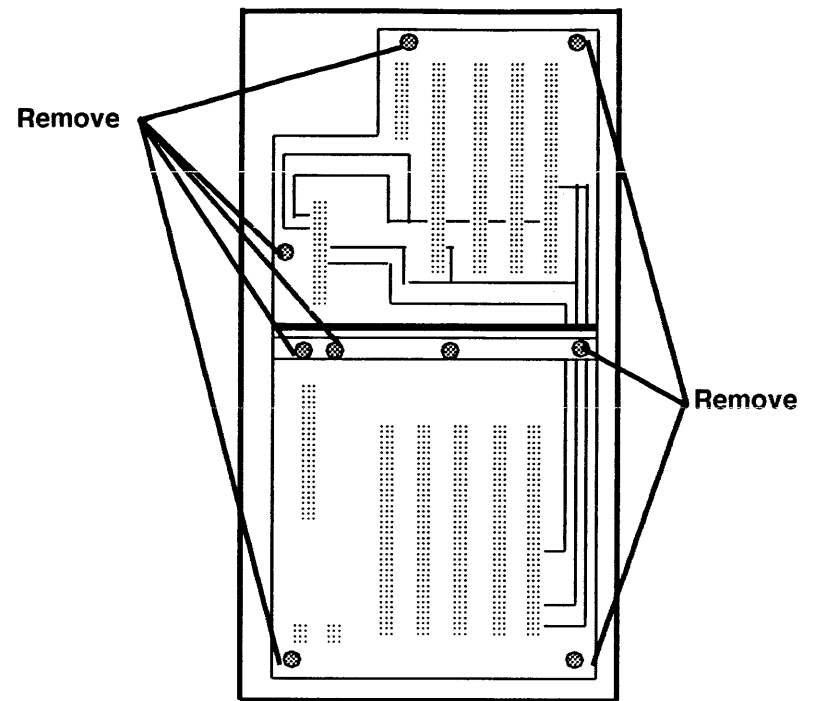

Figure 6. Backplane
- a. Remove the eight mounting screws (Figure 6) while leaving the screw in the center.